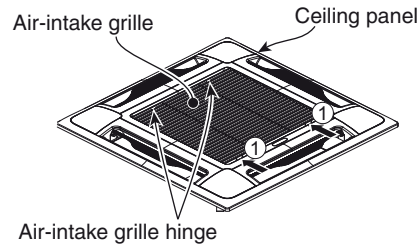

Fig. 7-4
- b) Slide the air-intake grille catches in the direction shown by the arrows ① to open the grille. (Fig. 7-4)